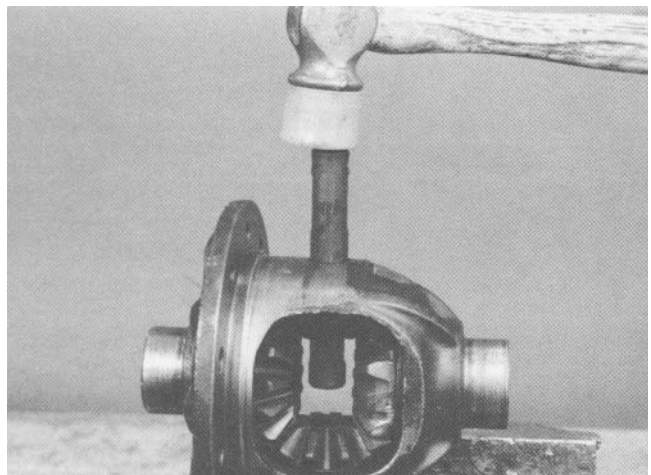

Figure 35
14. Install the pinion shaft. Grease the shaft to aid assembly. Be sure the hole in the pinion shaft lines up with the hole in the differential case (Fig. 35).